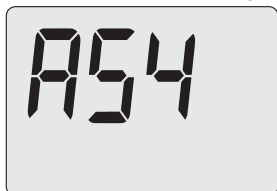

Figure 9.26
- Press button 13 and hold until the LCD display shows the code **A54**, indicating entry into “parameter A54” (Figure 9.26).
- Press 12 or 13 (Figure 9.18) to confirm the value entered and return to the list of parameters (Figure 9.26).